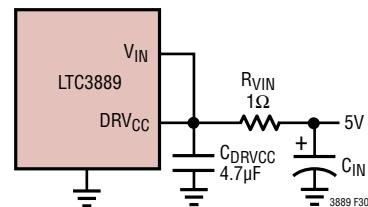

Figure 30. Setup for a 5V Input
For applications where the input voltage is less than 6V, tie the VIN and DRVCC pins together and tie the combined pins to the input with a 1 $\Omega$  or 2.2 $\Omega$  resistor as shown in Figure 30. To minimize the voltage drop caused by the gate charge current a low ESR capacitor must be connected to the VIN/DRVCC pins. This configuration will override the DRVCC linear regulator and will prevent DRVCC from dropping too low. Make sure the DRVCC voltage exceeds the RDS(ON) test voltage for the MOSFETs which is typically 4.5V for logic level devices. The UVLO on DRVCC is set to approximately 4V.